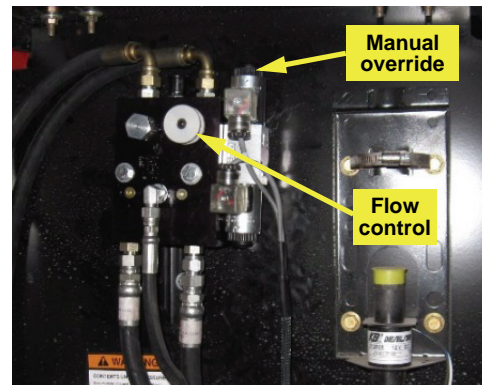

Figure 9: Steering block manual override and flow control button
- Turn counter clockwise to increase flow (Figure 9).
- e. The coils on the hydraulic steering block have manual push button overrides. Push either manual override to move the steering wheels all the way to one extreme (Figure 9).
- f. While pressing the override button of the other coil, count the number of seconds for the steering wheels to move all the way in the opposite direction (Figure 9).